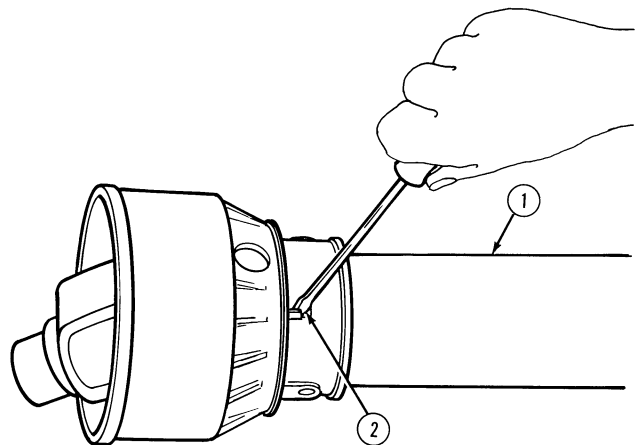
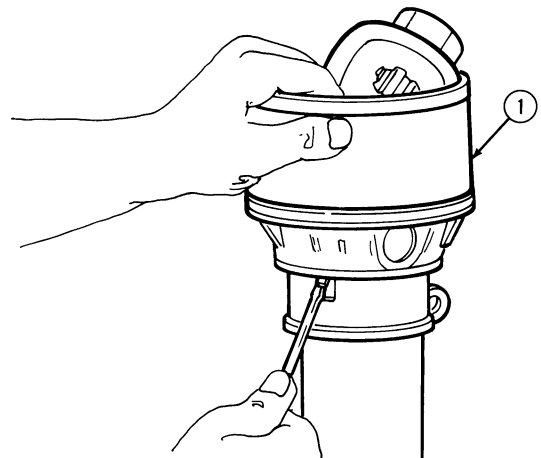
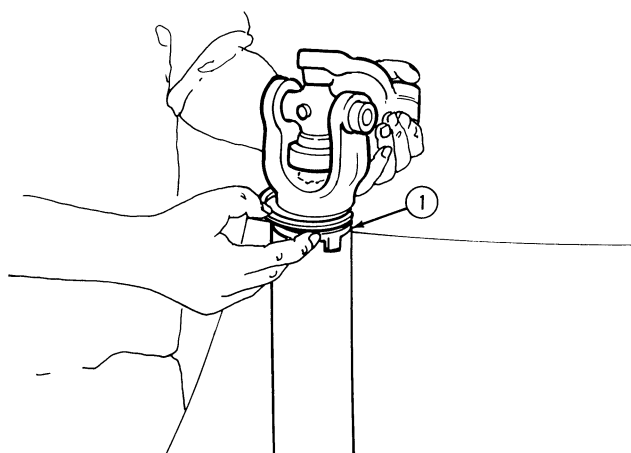

Figure 1
Figure 2
Figure 3
1. Remove the rotating shield (1), Figure 1, by removing the locking screw (2) and aligning the bearing tabs with the cone pockets. Remove the half guard (1), Figure 2, and bearing ring (1), Figure 3. Examine the shaft for dents or gauling in the area of the slip joint. If a dent or evidence
2. Install the bearing ring (1), Figure 3. Install the half guard and retaining screw.